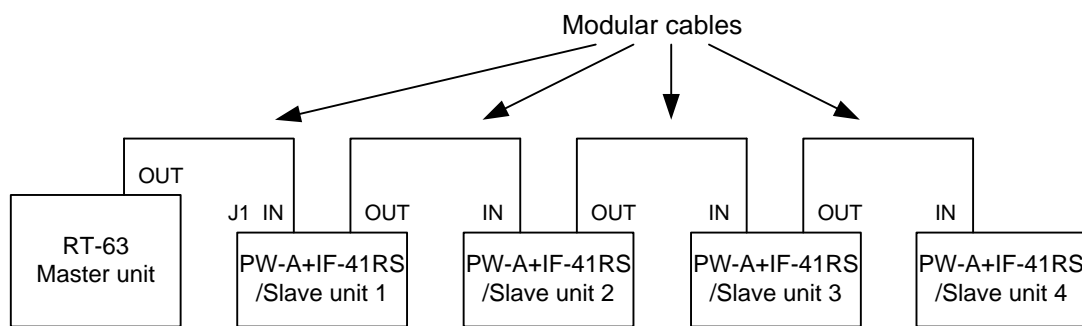

Fig.23 Computer Control Using RT-63
- When the RT-63 (our remote controller) is used as the master unit and the PW-A units (with the IF-41RS units built in) are connected as shown in Fig.23, it is possible to control the following operations of a maximum of four PW-A units:
- ① Turning on and off the MAIN OUTPUT key.
- ② Switching PRESET 1 key to PRESET 4 key (select PRESET 4 key with VARIABLE key.)